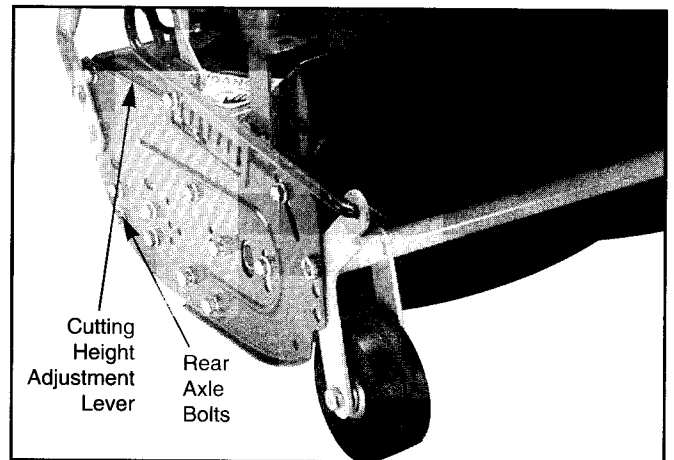

Fig. 5
1. To adjust cutting height to a higher cut, move adjustment lever forward. See Fig. 5. For a lower cut, move adjustment lever backward. (Toward rear of mower).